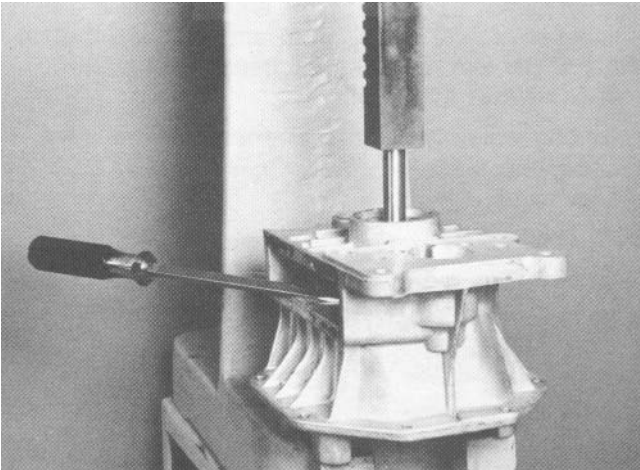

Figure 33
12. Position the housing assembly on a suitable press. Place a 1/8 inch (3 mm) piece of steel or a screwdriver blade under the edge of the spur gear. This will prevent the spur gear from cocking and possibly cracking the housing (Fig. 33).